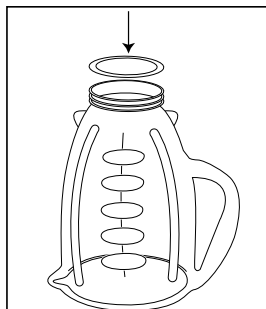

FIGURE 2
2. Place sealing ring over jar opening. (Figure 2)